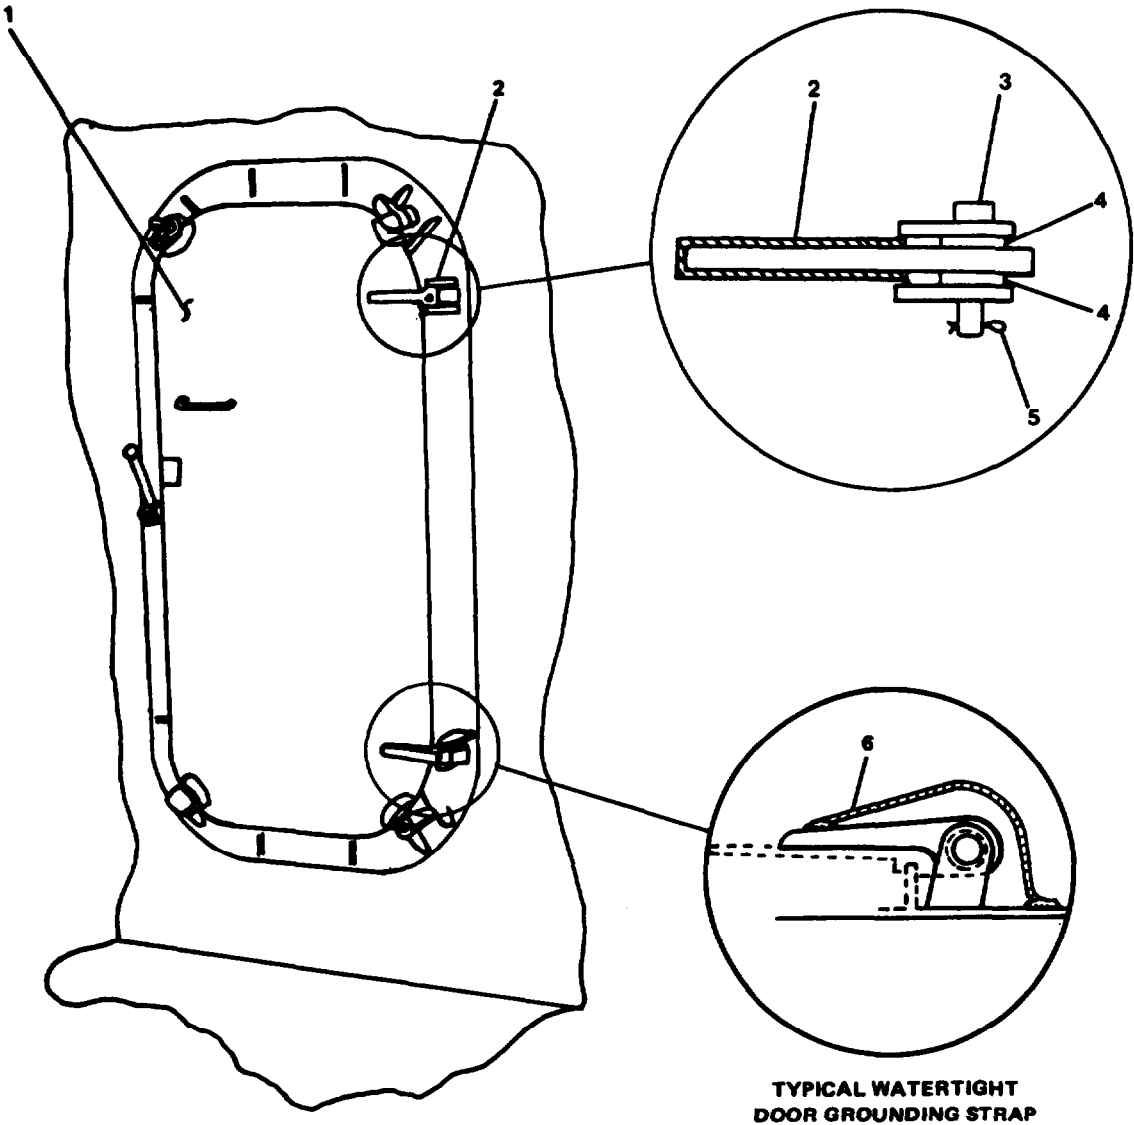

FIGURE 2-170. Replace Watertight Door. Four Dogs (30 x 51).
- a. Remove (if installed) grounding straps (6, FIGURE 2-170) from hinge blades (2) and from bulkhead.
- b. Open door (1).
- d. Install gasket (11) and gasket retainer (10) on door.
- e. Install pipe sleeve (8) on door.
- f. Install dog door closer (9) on door.
- g. Install preformed packing (4) and bronze bushings (5) on door.
- h. Install handles (7) on &or.
- i. Secure handles using hex nuts (6).
- a. Place door (1, FIGURE 2-170) in position on frame.
- b. Install flat washers (4) and align holes.
- g. Install (if removed in Step a of removal procedure) grounding straps (6, FIGURE 2-170) to hinge blades (2) and to bulkhead.